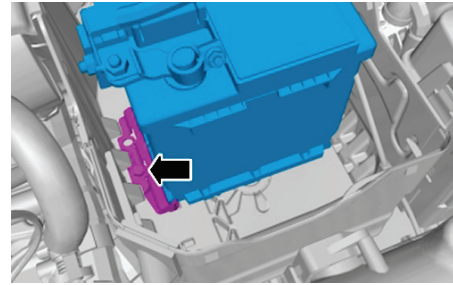

Fig. 4 Battery removal
9. Remove battery hold down, Fig. 4.
2. Install battery hold down, and torque to 88 inch lbs., Fig. 4.